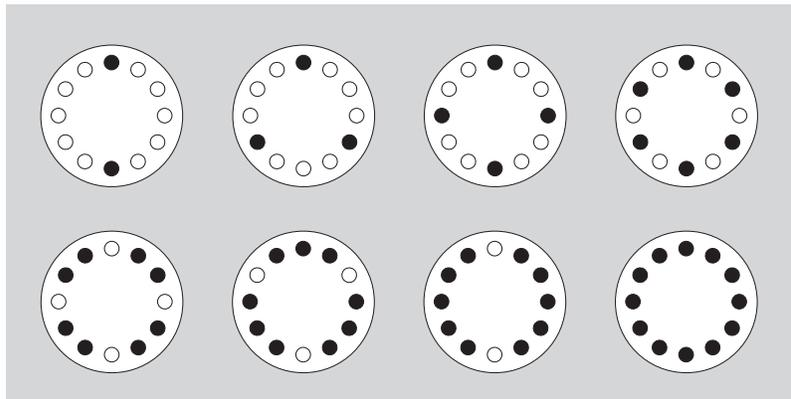

Figure 1. Typical Examples of Symmetric Loading of Twelve or Fewer Tubes
2. Load the filled containers symmetrically into the rotor. (Refer to TUBES AND BOTTLES on page 7 for information about containers.) If fewer than twelve tubes are being run, they must be arranged symmetrically in the rotor (see Figure 1). Opposing tubes must be filled to the same level with liquid of the same density.